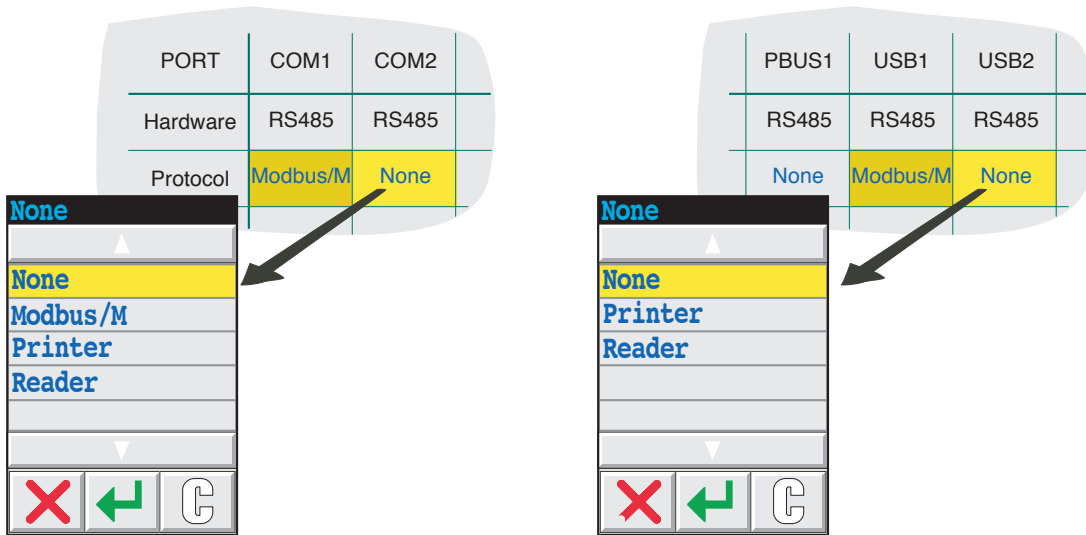

Figure 12.2.1 Printer/port assignment examples
2. For 'open' windows, it is recommended that a foam gasket or similar is positioned between the overlay and the front face of the instrument such that this gasket is compressed when the overlay is secured. The gasket must avoid the touch-screen area, as shown in figure 12.2.1, below.
Touching the 'Protocol' cell for any suitable port calls a pick-list to the display (see examples in figure 12.2.1 above) allowing 'Reader' to be selected. Once two readers have been assigned to ports, then 'Reader' does not appear as a picklist item for any other port.